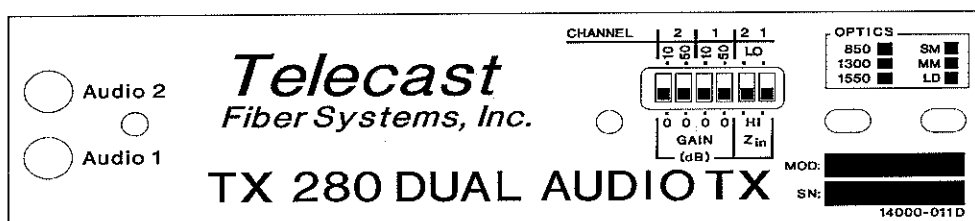

Figure 34. TX 280 Dual Digital Audio Transmitter Module
DIP switches on the TX 280 module faceplate toggle between high or low impedance and 10 db or 50 db of gain for each channel. High impedance input is 5 kΩ (HI), and low impedance is 600 Ω (LO). Termination switches for channel 1 and 2 can be adjusted independently for impedance and gain. See Figures 34 and 35.